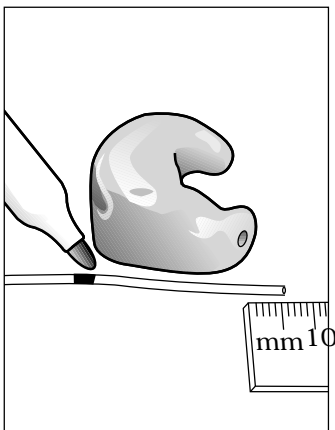

Figure 8.2.2A
1. Place an unattached probe tube on a flat surface along with the client's earmold or shell as shown in Figure 8.2.2A so that the tube rests along the bottom of the canal part of the earmold, with the tube extending at least 5 mm past the canal opening.